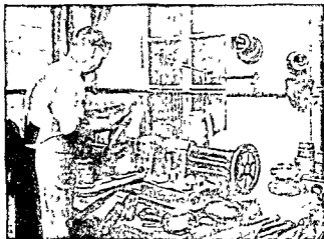

FIG. 192.—"Spinning" a Bowl out of a metal disc on a lathe
FIG 192.—Stages of a Table Fork. 1 Strip of metal 2 Strip cross rolled 3. Blank fork "fied out." 4 Fork pronged 5 Fork stamped. 6. Finished fork 7 Cross rolled strip for a table spoon.
These strips have then to be treated by two rolls, which taper from the middle to the ends. Each strip is passed between the ends, and so cross-rolled or flattened out at each extremity, where the bowl or prongs, as the case may be, and the handle are to come. A cross-rolled strip for a spoon is shown in Fig. 192 (7); one for a fork in Fig. 192 (2).
The fork has next to be *pronged*. The three spaces between the four prongs are stamped out separately by a mechanical punch. A strip about an eighth of an inch deep is left at the top of the prongs (Fig. 192, 4) to keep them from spreading under the next operation of *rounding*, which is effected by driving them into a sunk die with one of the hammers described above. The shank is then *marked* with the maker's name and any suitable design and handed over to a *filer*, who trims off all the rough edges caused by the stamping, and removes the cross-tie at the ends of the prongs. The prongs and head are then beaten by wooden mallets to their proper curve, and the shaping of our fork is completed.